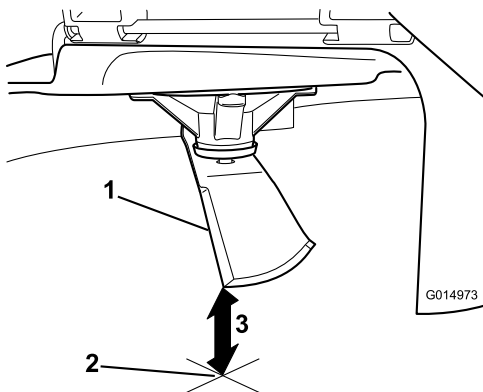

**Figure 98**
3. Measure from the tip of the blade to the flat surface (Figure 98).